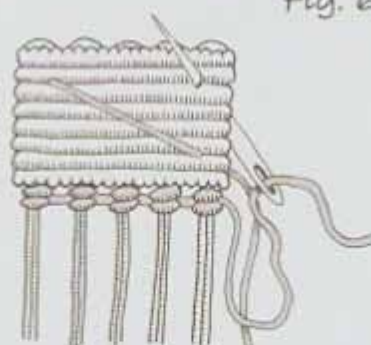

Fig. 7
4. Take the other tail of **AC** from the bottom row and thread onto the needle (see Figure 7).
5. Flip the earring to the back and pass the needle through the 3rd opening from the left in between rows 1 and 2. Pull snug (see Figure 7).